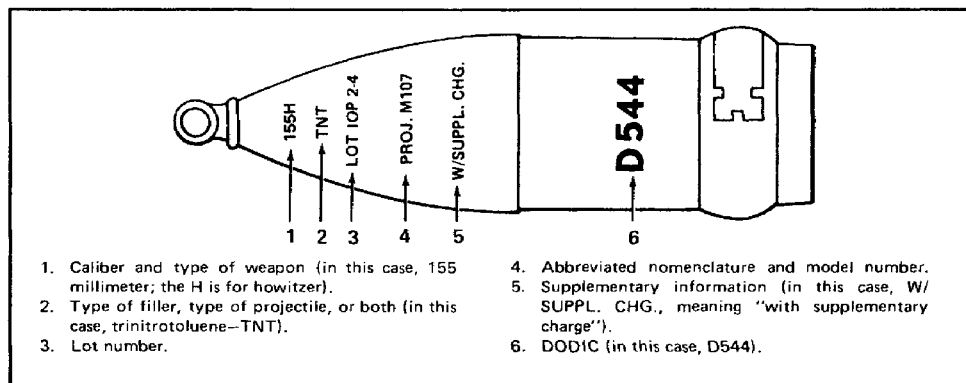
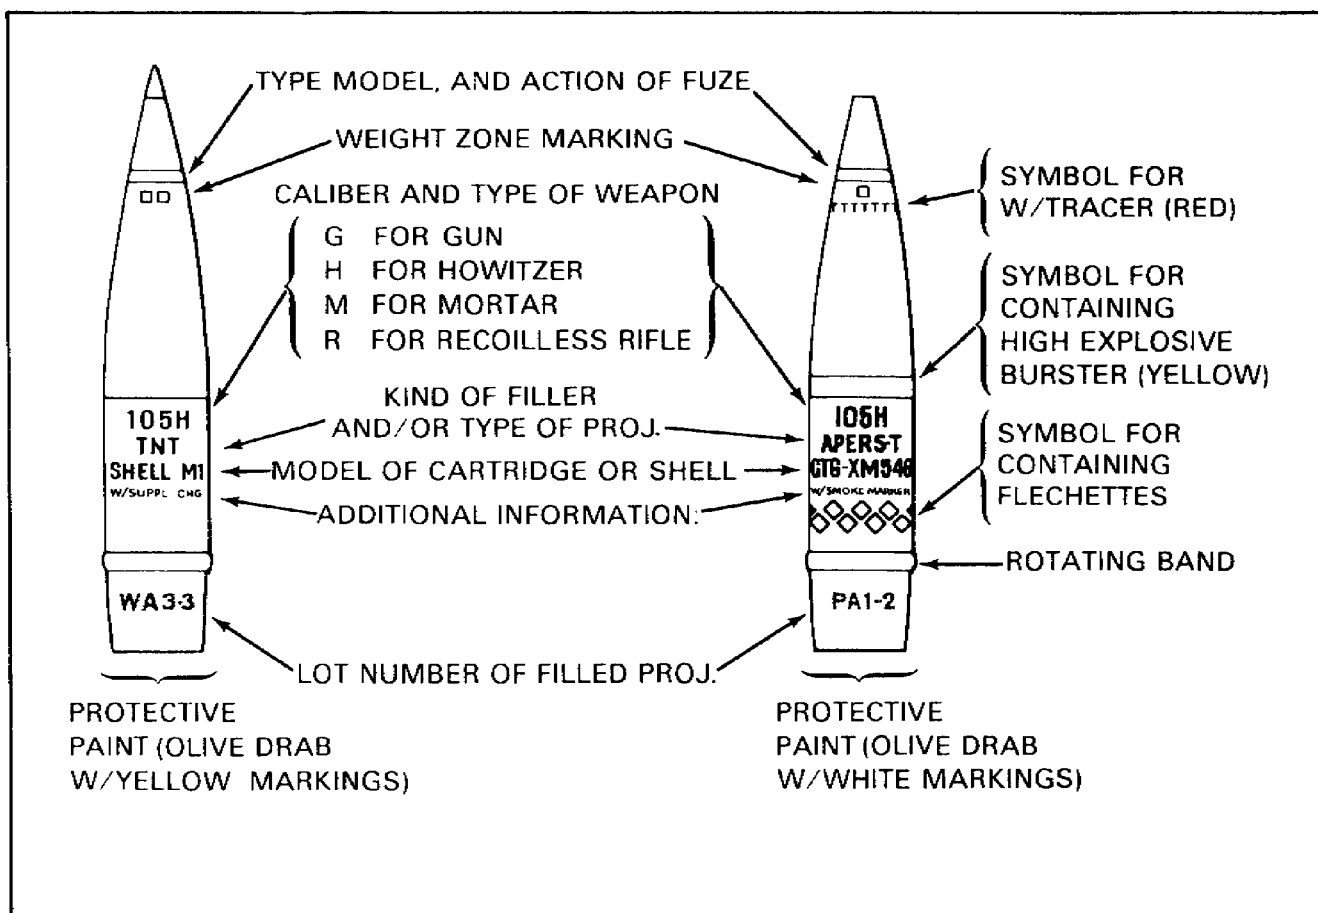

Figure 2. Typical Markings on 155mm HE Projectile.
Figure 3. Artillery Ammunition Markings.
Once you can identify all the markings found on ammunition boxes, it is time to learn to identify markings found on ammunition items. See figure 2. Note the markings on the projectile.
See figure 3. These 105mm projectiles have the same markings as the 155mm projectile in figure 2, with some differences in location. The DODIC is not on smaller items because there is not enough space, but the entire NSN and DODIC is on the container for the ammunition. The 155mm projectiles have no containers.
**Broken band.** Broken bands around the circumference of a projectile indicate binary ammunition items. "Binary" means that the item contains two separate elements that remain inert until mixed. A yellow broken band indicates that the item contains explosive binary elements. A dark-green broken band indicates that the item contains toxic chemical binary elements. *Note:* These bands are not to be confused with the weight zone markings as shown in figures 3 and 4.